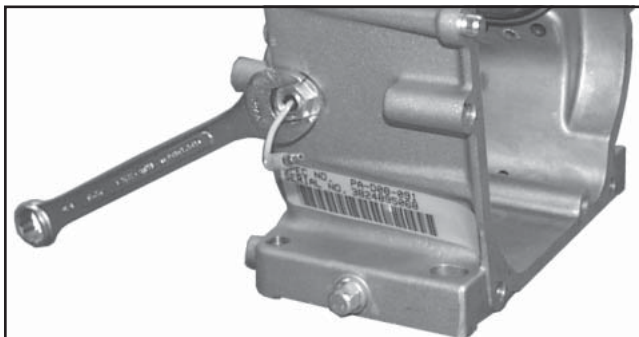

Figure 9-52. Removing Oil Sentry™ Wire From Crankcase.
1. Remove the nut securing the Oil Sentry™ lead wire grommet assembly in the crankcase. See Figure 9-52.